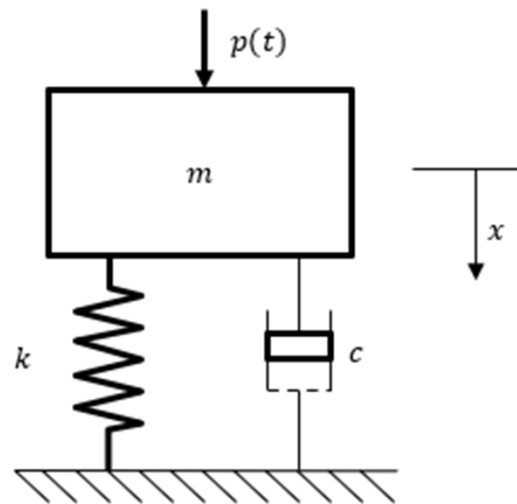

Figure 1.
1. Figure 1 shows a mass-damper-spring system with an applied force  $p(t)$ .